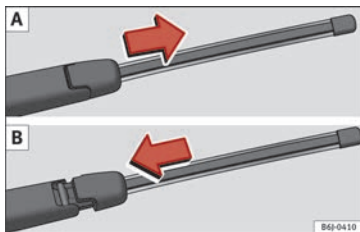

Fig. 93 Removing and fitting the rear window wiper blade.
- Slide the blade adapter in the direction of the arrow and remove the blade » **Fig. 93 A.**
- Place the blade as shown in » **Fig. 93 B** and slide the adapter along until it engages.